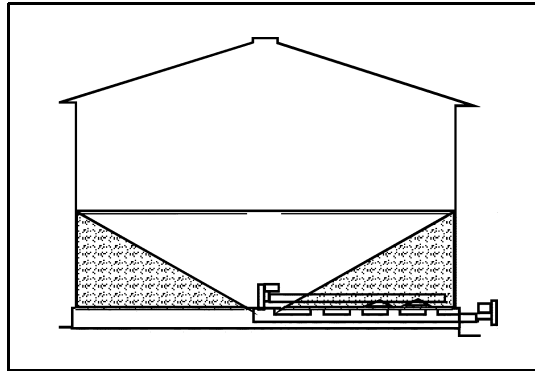
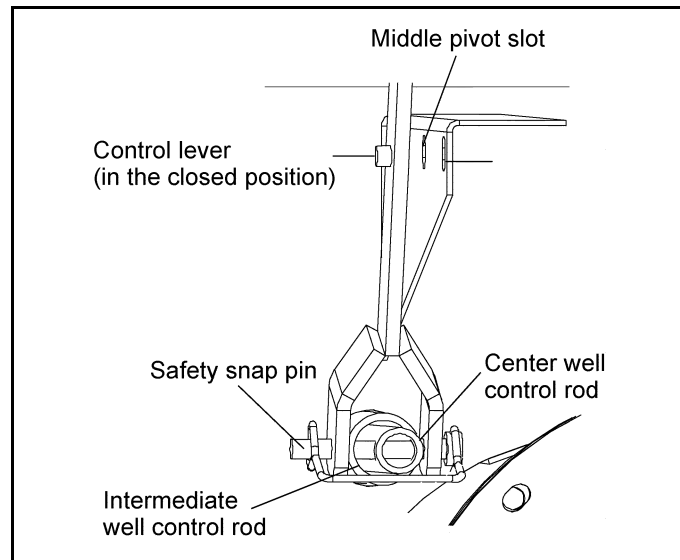
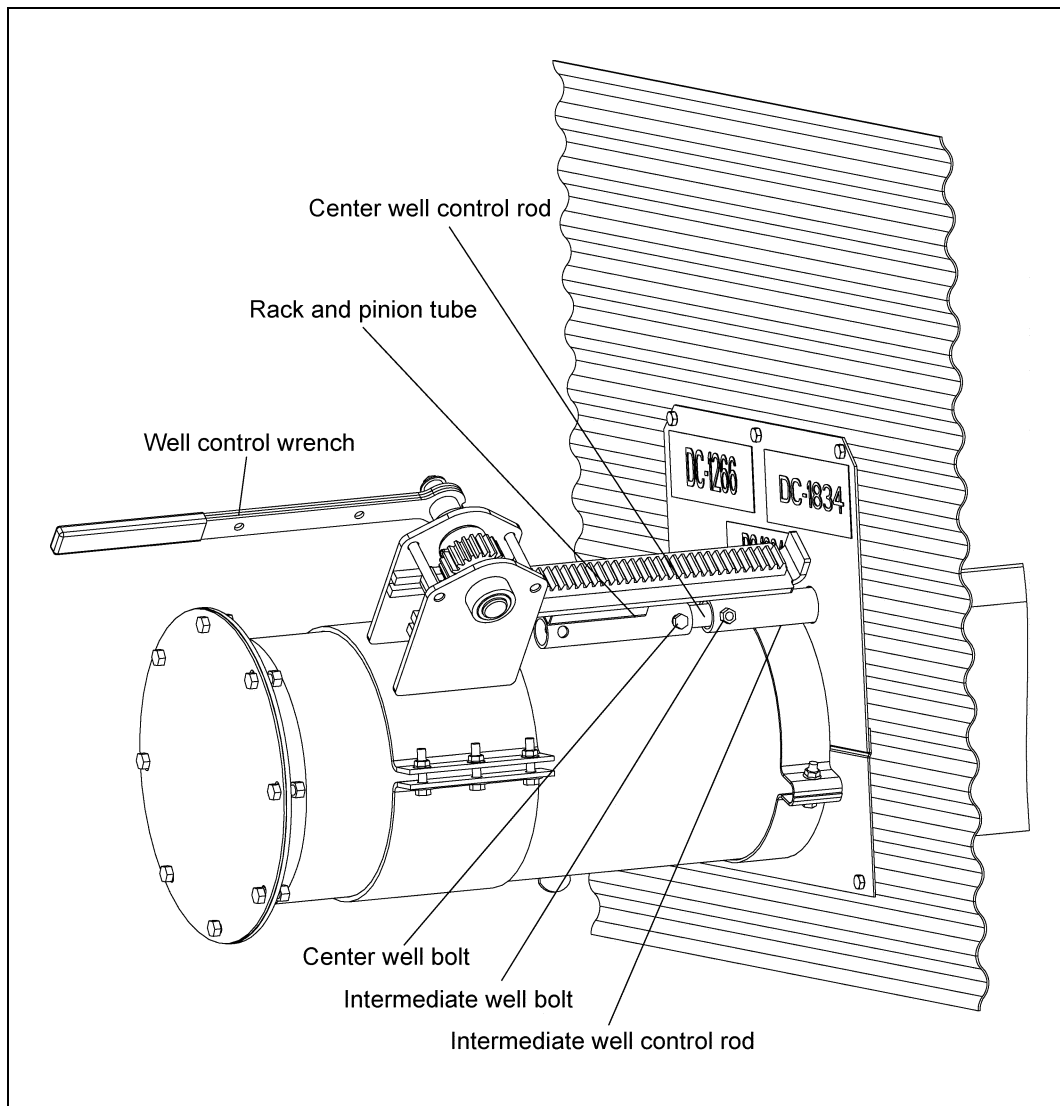

Figure 5D
Figure 5E
Figure 5G
5. When grain flow stops from the center well, close the center well gate. Insert the safety snap pin through the control lever and both the intermediate and center well control rods as Figure 5E. The remaining grain should look similar to Figure 5D.
5. When grain flow stops from the center well, close the center well gate. Insert the intermediate well bolt through the intermediate well control rod and the center well control rod. (See Figure 5G.) Remaining grain should look like Figure 5D on Page 39.